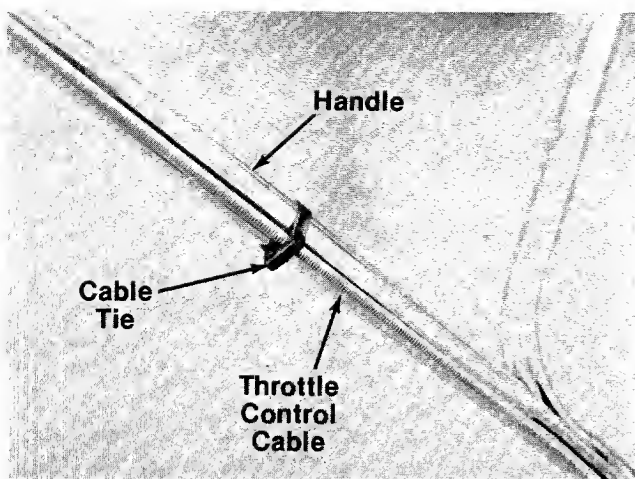

FIGURE 4.
5. Secure throttle control cable to handle with cable ties provided. See figure 4.